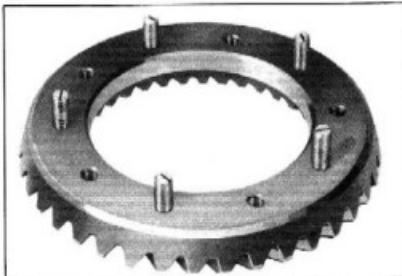

Fig. 10—Use of Guide Pins in Ring Gear
3. When replacing the ring gear, it is good practice to use five guide pins made by cutting the heads from $\frac{3}{16}$ " - 24 cap screws about $1\frac{1}{2}$ " long. Slots should be cut in the heads of these guide pins so that they may be easily removed with a screwdriver. Install these guide pins in alternate bolt holes in the ring gear, Fig. 10, and slip the ring gear over the pilot diameter of the case, making sure that the back face of the ring gear and the face of the case are free from dirt and burrs. Install every other ring gear bolt and draw them up evenly and snugly so that the ring gear face is flush with the face of the case. Remove the guide pins and install the remaining bolts.